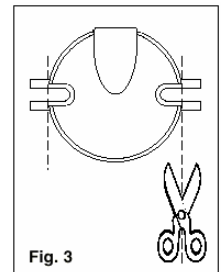

Fig. 3
- For heads with 1.69 in. (43 mm) diameter housings, cut the screw slots. For bigger heads, cutting is not necessary. (Fig. 3).